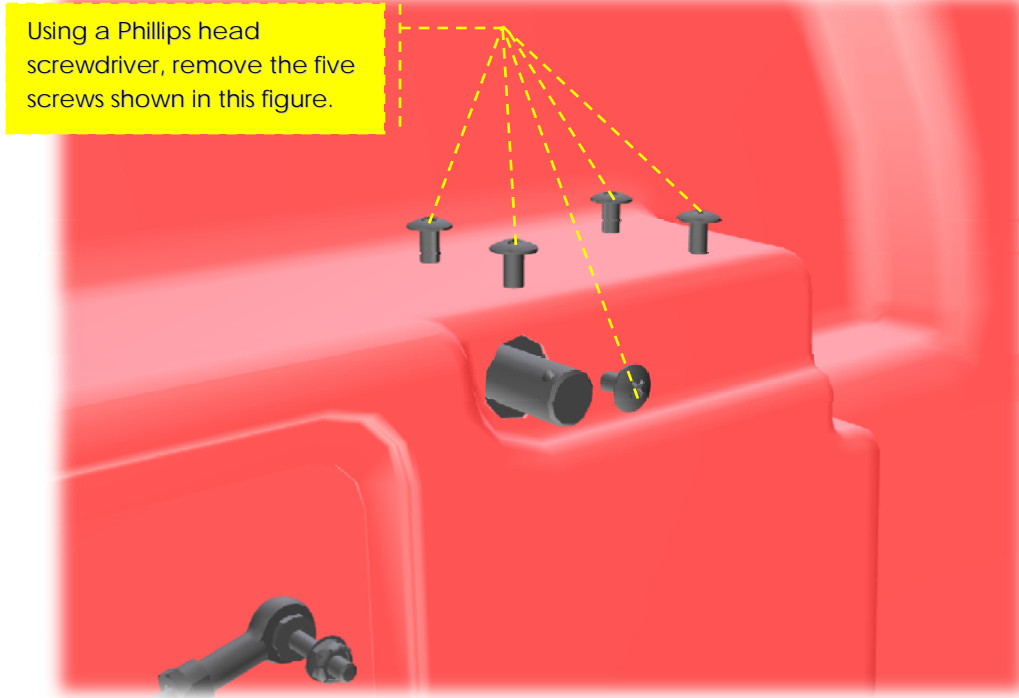

Figure 5 – Removing the Screws
5. After the tie rod is disconnected. Remove the five Phillips screws holding the Latch Handle Assembly to the door. See *Figure 5*.